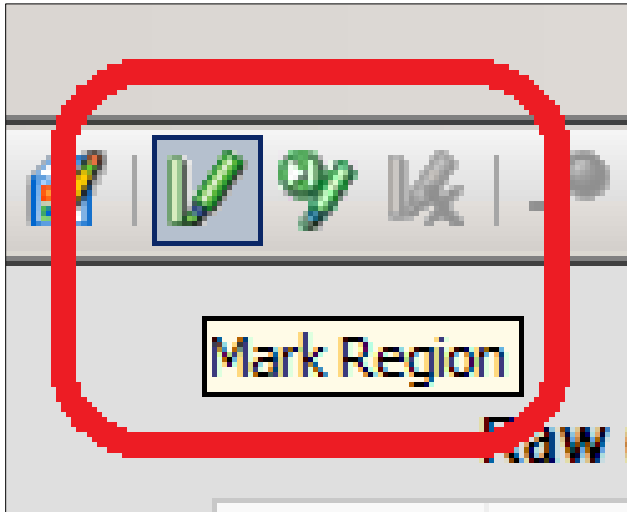

Figure 6. Screenshot showing the Mark Region tool within Aquarius Data Correction window that allows the user to select specific regions in the data set.
6. Also, the “Mark Region” tool can be used to select specific regions in the dataset (Figure 6).